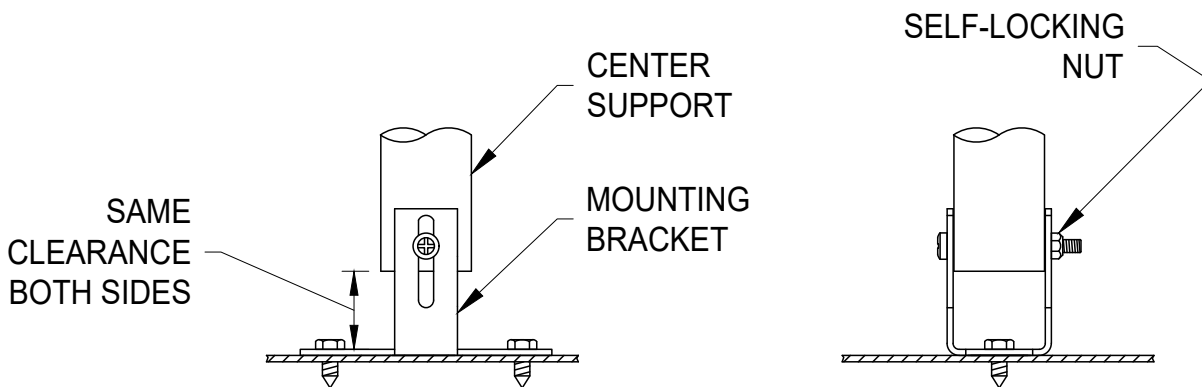

Figure 8
- Position the center support so that the clearance between the center support and the duct wall is the same at both ends, then tighten the mounting bracket bolts. See Figure 8.